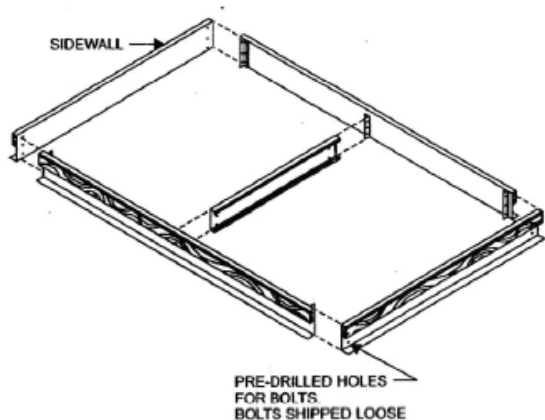

Figure 5 Roof Curb Assembly
**STEP 2:** Drive bolt the remaining support members using the predrilled holes and provided drive bolts. Turn out the flanges before fastening. See Fig. 5.